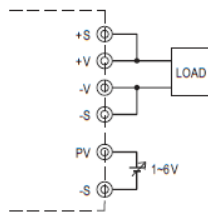

Fig. 3.1 Add on 1-6V external voltage
- (1) Connecting an external DC source between PV & -S on CN1 or CN2, and +S & +V, -S & -V also need to be connected that is shown in Fig. 3.1.